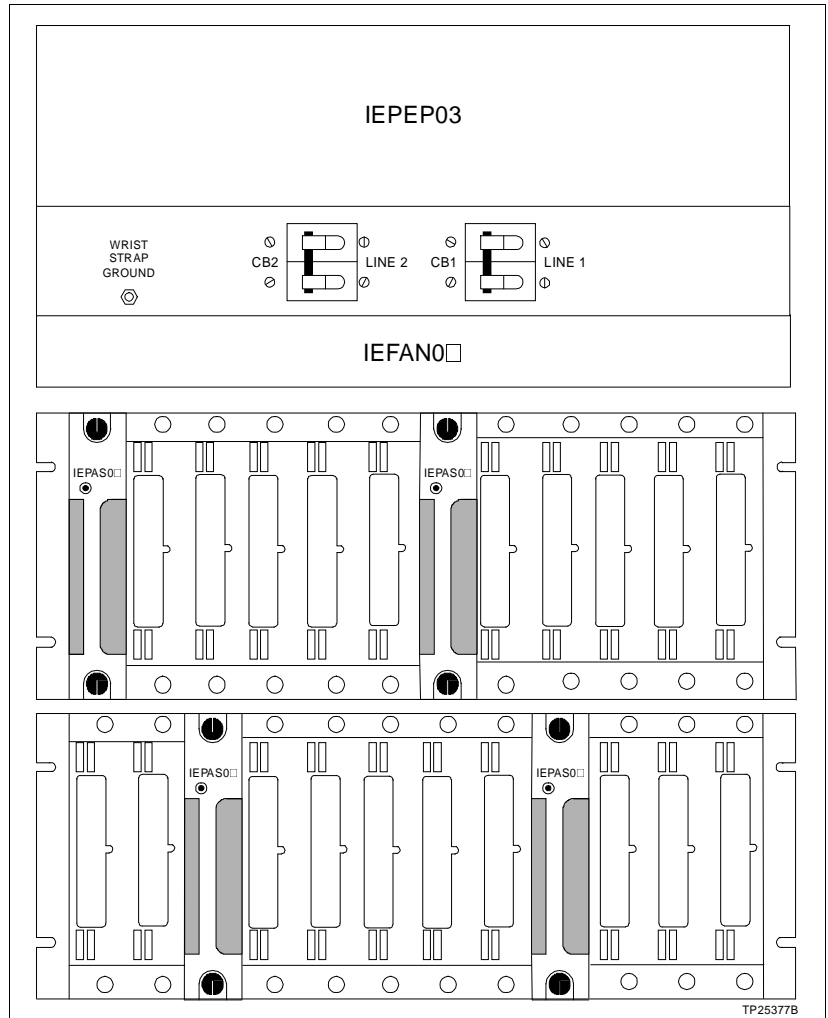

Figure 3-1. Circuit Breakers CB1/CB2
1. Place circuit breakers CB1 and CB2 (see Figure 3-1) on the front of the panel to the **off** position before connecting AC power input wiring.